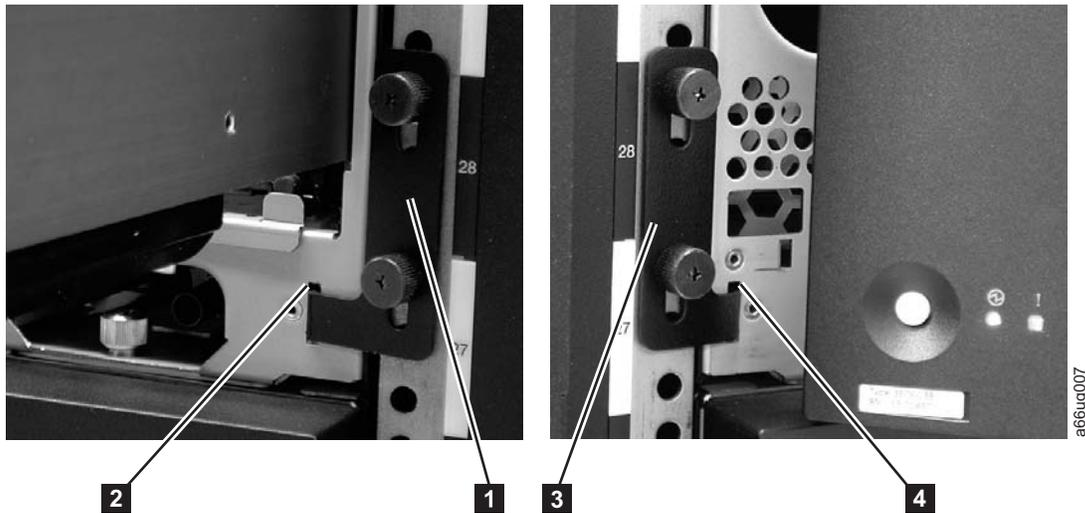

Figure 8-9. Removing the rack ears (Control Module shown)
2. Remove the right rack ear ( **1** in Figure 8-9).
3. Remove the left rack ear ( **3** in Figure 8-9).
2. Replace the right rack ear ( **1** in Figure 8-9).
- a. At the bottom right of the I/O Station position on each library unit, there is a slot ( **2** in Figure 8-9). Insert the right rack ear into the slot.
3. Replace the left rack ear ( **3** in Figure 8-9).
- b. Insert the left rack ear into the slot ( **4** in Figure 8-9).